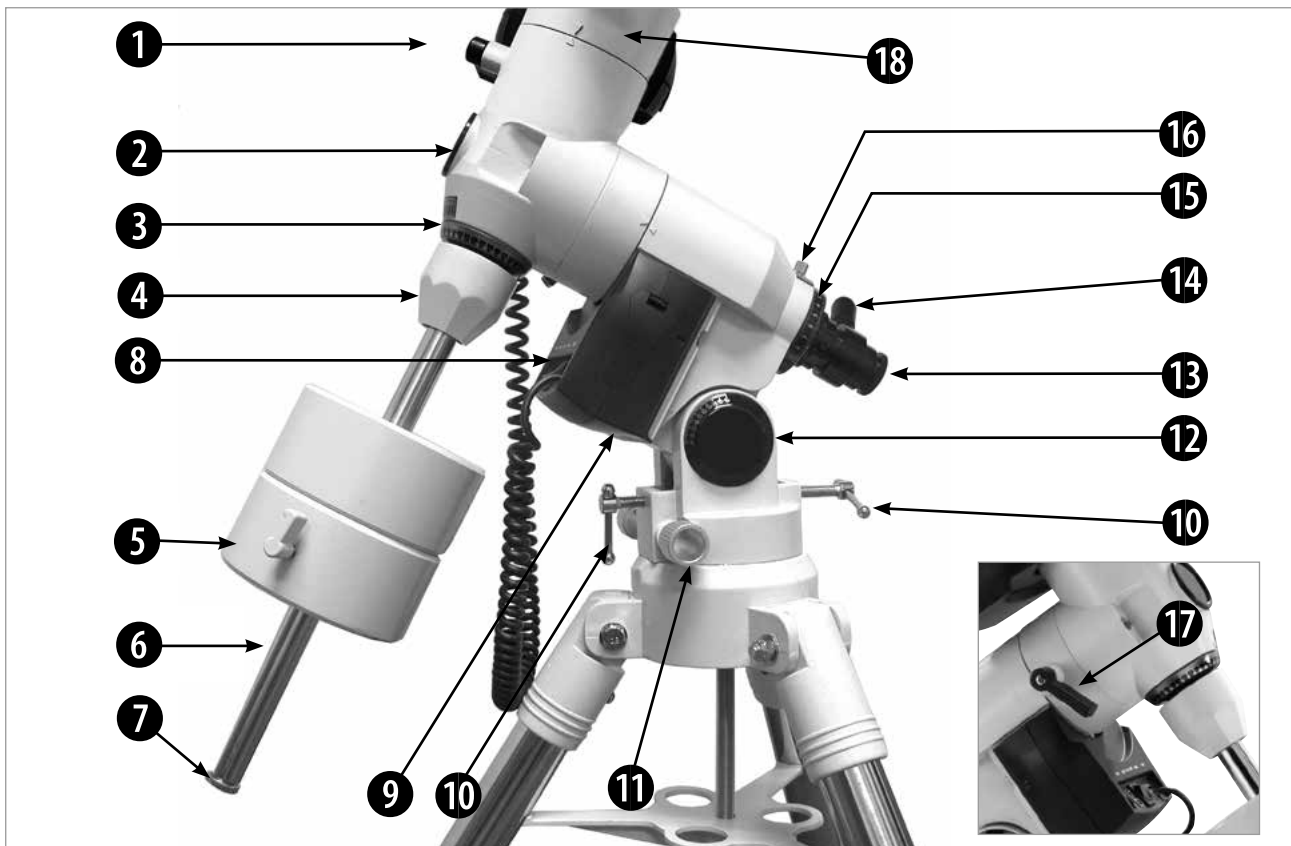

Fig. 1a: The Mount; detail shows opposite side of mount.
- 9 **Right Ascension (R.A.) Motor Drive Assembly:** Controlled by the handbox. Moves the optical tube along the R.A. axis. The R.A. Lock (17, Fig. 1a) must be tightened to a firm feel in order for the R.A. motor to operate.
- 10 **Latitude Adjustment T-Handles (10, Fig. 1a):** Sets the latitude of your observing location. The two T-handle screws work in a „push - pull“ operation—as you tighten one, loosen the other.
- 18 **Dec. Motor Drive Assembly:** Controlled by the handbox. Moves the optical tube along the Dec. axis. The Dec. Lock (1, Fig. 1a) must be tightened to a firm feel in order for the Dec. motor to operate.